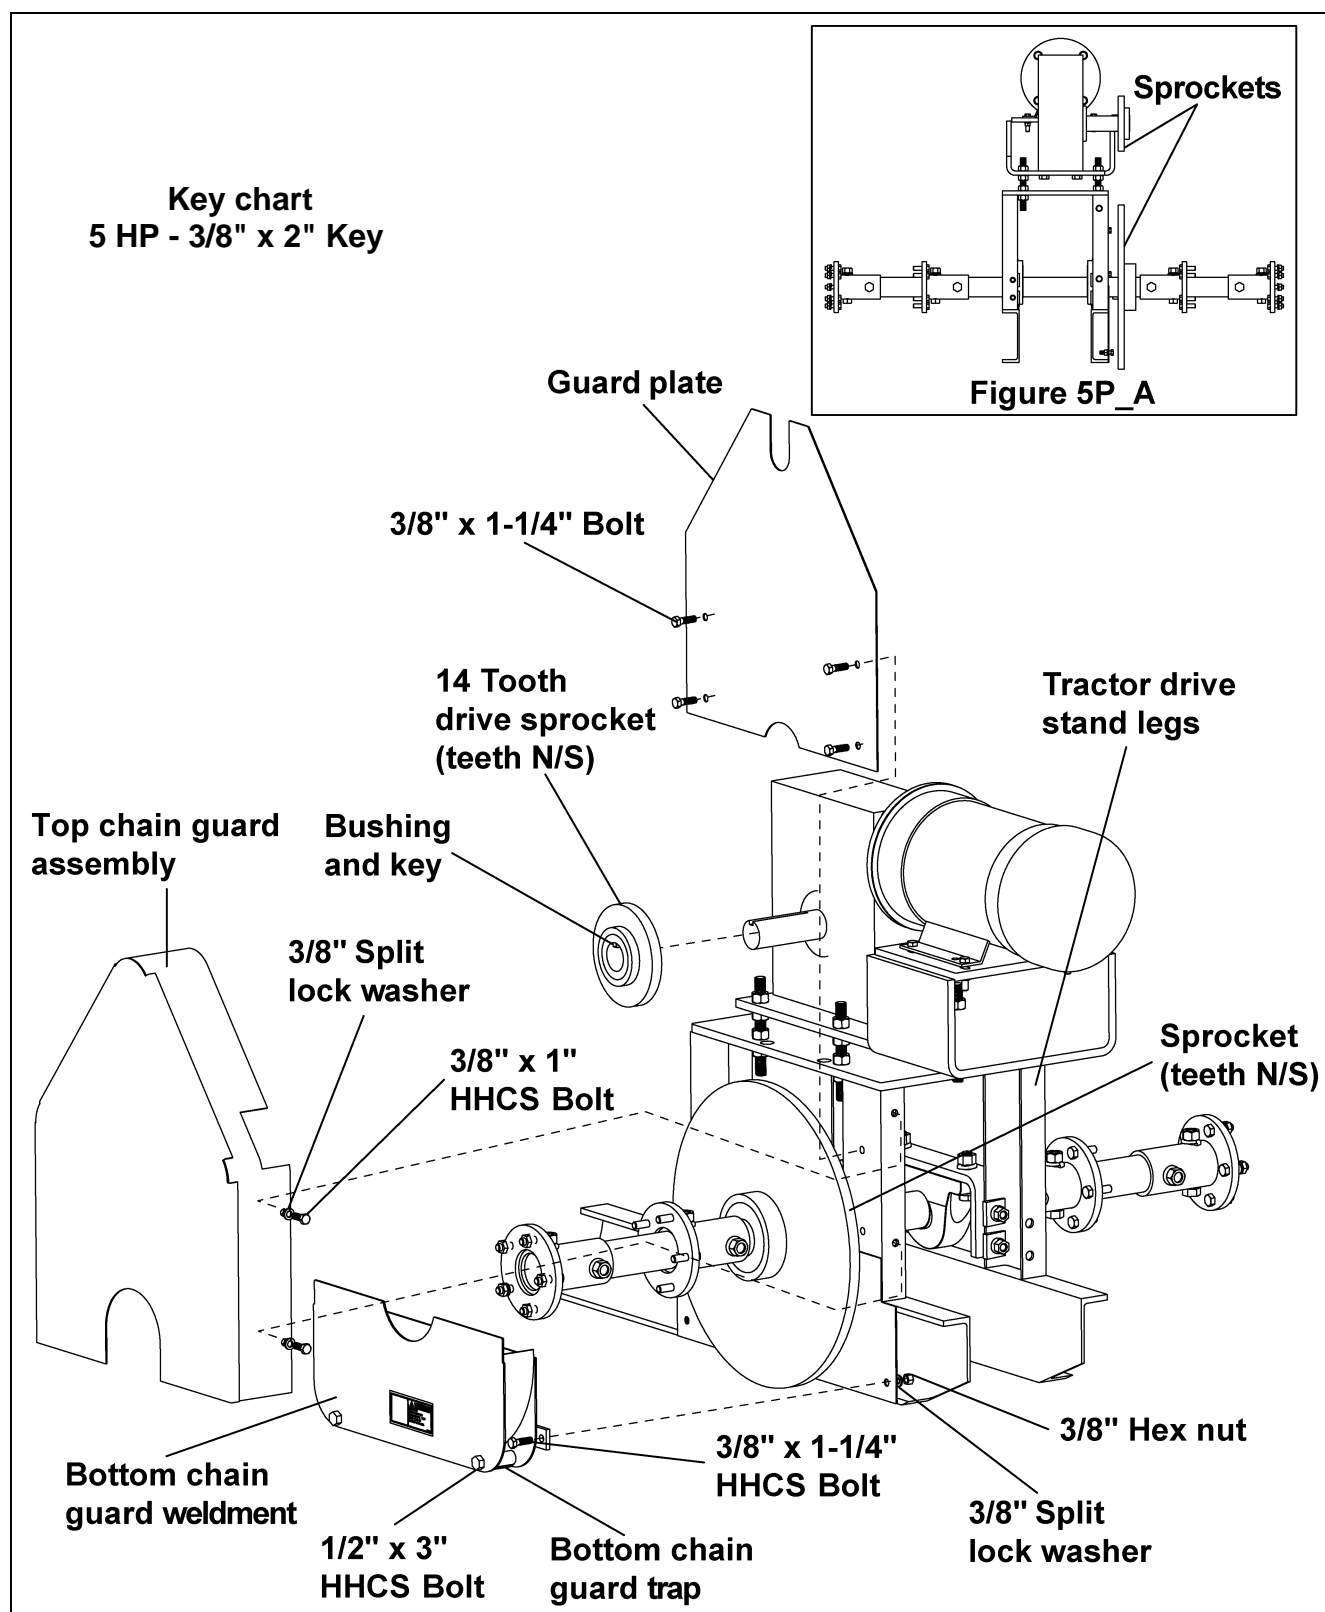

Figure 5P
- A. Attach the guard plate to the tractor drive stand legs using 3/8" bolts and nuts before attaching the drive sprocket. \(See Figure 5P on Page 33.\)
- B. Slide the fourteen (14) tooth (teeth N/S) drive sprocket, bushing and key (see key chart on Page 33 for the size key) onto the output shaft of the reducer, make sure both sprockets line up. \(See Figure 5P and Figure 5P_A on Page 33.\)
- C. Assemble the bottom chain guard trap to the bottom chain guard weldment using 1/2" x 3" HHCS bolts, 1/2" split lock washers and 1/2" hex nuts. \(See Figure 5P on Page 33.\)
- D. Attach bottom chain guard weldment to tractor drive stand using 3/8" x 1-1/4" HHCS bolts, 3/8" split lock washers and 3/8" hex nuts. \(See Figure 5P on Page 33.\)
- E. Attach top chain guard assembly to tractor drive stand using 3/8" x 1" bolts, 3/8" split lock washers and 3/8" hex nuts. \(See Figure 5P on Page 33.\)